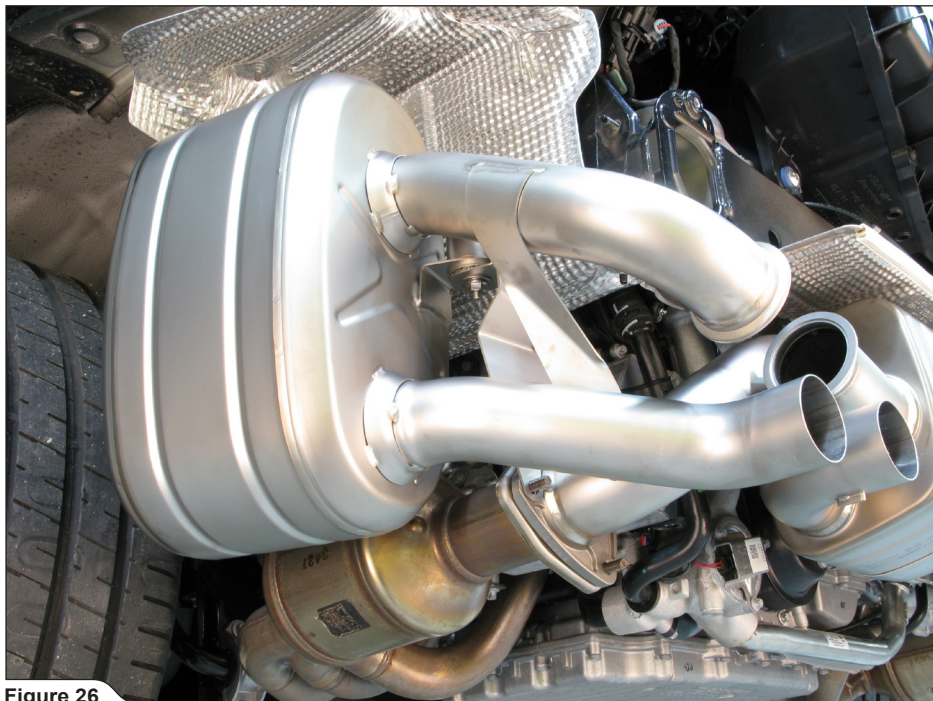

Figure 26
8. Hang both side mufflers onto the brackets and flanges; hand tighten the stock nuts (**Figure 26**).